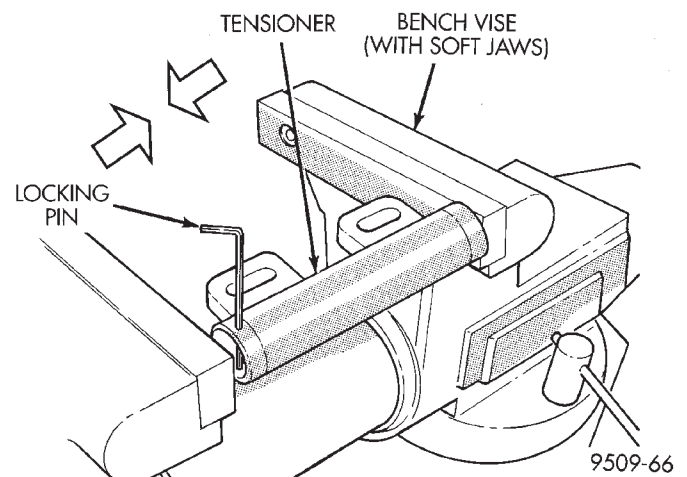

Fig. 66 Compressing Timing Belt Tensioner
(1) When tensioner is removed from the engine it is necessary to compress the plunger into the tensioner body.
(2) Place the tensioner into a vise equipped with soft jaws and slowly compress the plunger (Fig. 66).